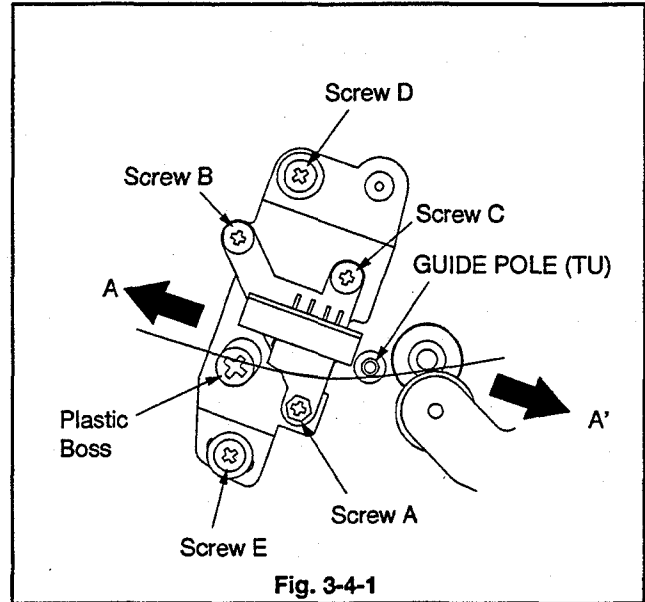

Fig. 3-4-1
12. Push the A/C HEAD to the right and left (in the direction of A-A' in Fig. 3-4-1) and then release. Check that the amplitude of the FM waveform does not change from that before shifting the A/C HEAD.